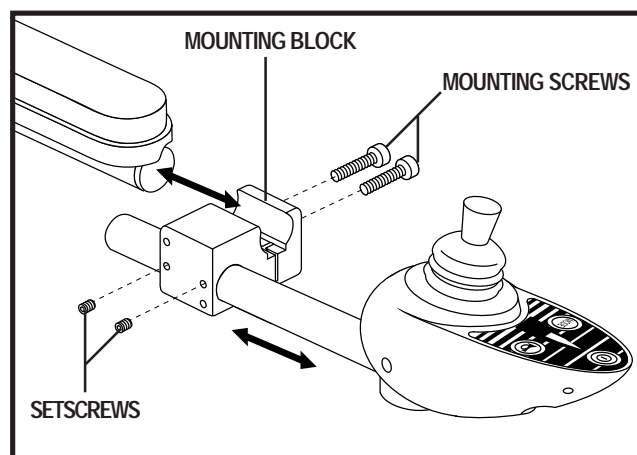

Figure 11. Adjusting Controller Position
4. Loosen the mounting screws in the controller mounting block. See figure 11.
2. Loosen the setscrews in the controller mounting block. See figure 11.